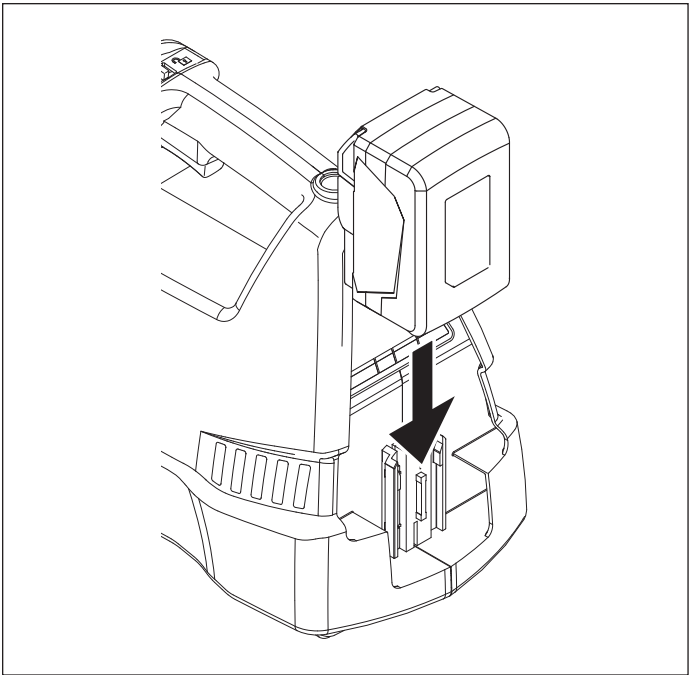

Figure 3, Battery Installation
- 1. Slide the battery down onto the battery dock at the rear of the pump. See Figure 3.